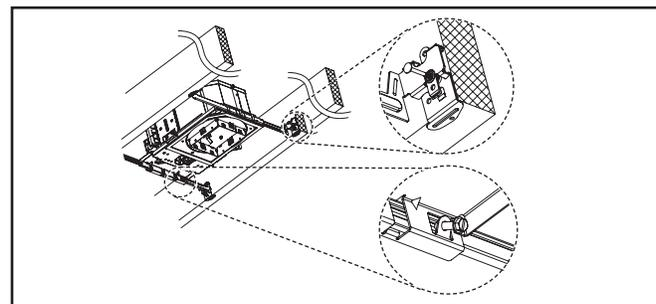

Figure 6.
1. Extend bar hangers to fit between joist and position mounting tab locator lip tight to bottom of joist or framing member. Bar hangers should be level with bottom of joist or framing member. (Figure 6.)
be locked into position by tightening bar hanger locking screws on housing platform. (Figure 6.)